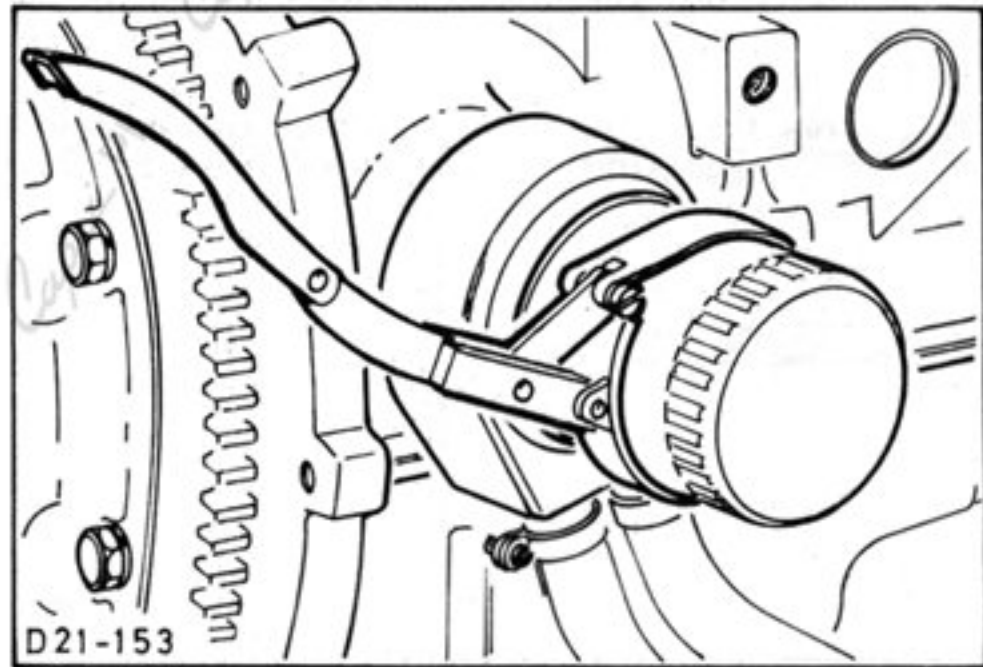

Fig.25. Unscrew oil filter.
2. Drain engine oil and remove dipstick. Unscrew oil filter grip, Fig.25. Remove oil cooler.